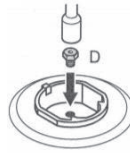

Figure 7.2
Fix the injector (D) you want to convert as shown in the Figure 7.2.